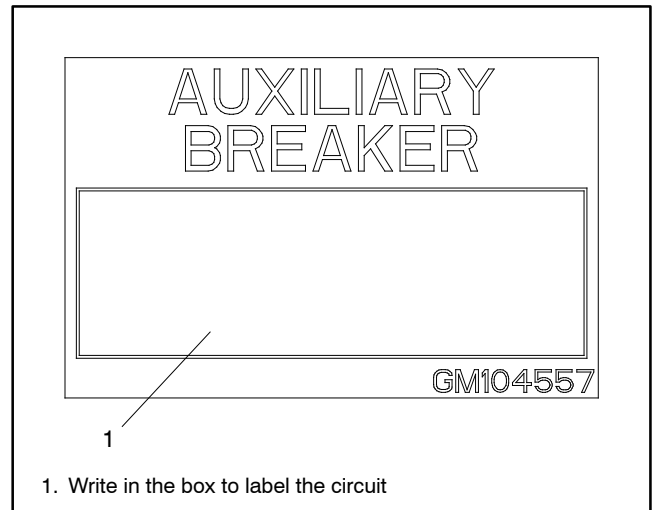

Figure 14 Decal GM104557
8. Label the auxiliary circuit by writing in the box on decal GM104557, provided with the kit. See Figure 14.